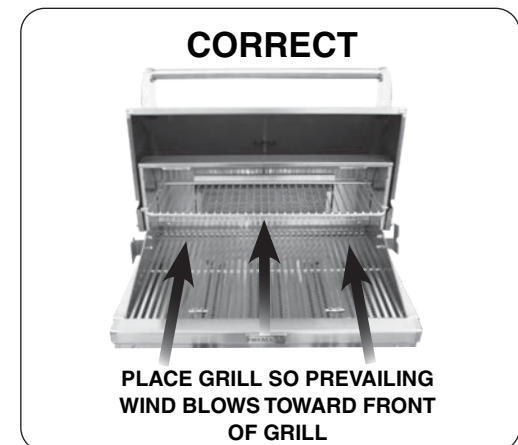
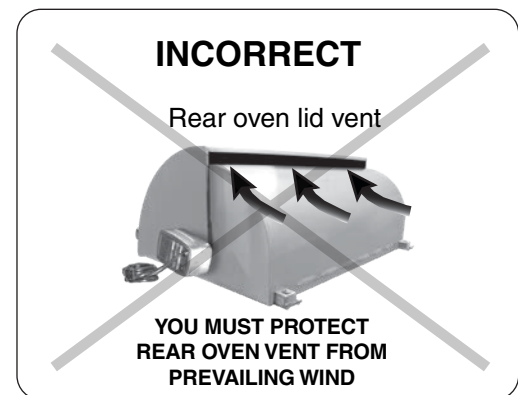

Fig. 10-2 Airflow direction - CORRECT
Fig. 10-3 Airflow direction - INCORRECT
**CAUTION:** Wind blowing into or across the rear oven lid vent (Fig. 10-3) can cause poor performance and/or dangerous overheating. Orient the grill so that the prevailing wind blows toward the front of the grill (Fig. 10-2). **A wind deflector is available for purchase to assist in proper airflow during windy conditions.** See Table 1 for model numbers. Follow the instructions included with the wind deflector for installation.